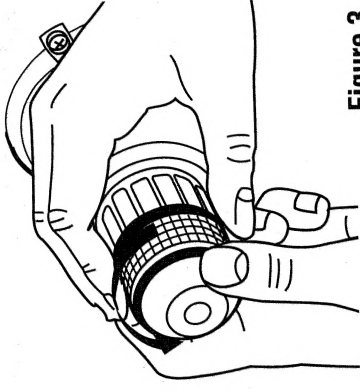

Figure 3
2. Grasp the rear half of the chuck with one hand and use your other hand to rotate the front half counterclockwise, as shown in Figure 3. Rotate the chuck far enough so that the chuck opens sufficiently to accept the desired accessory.